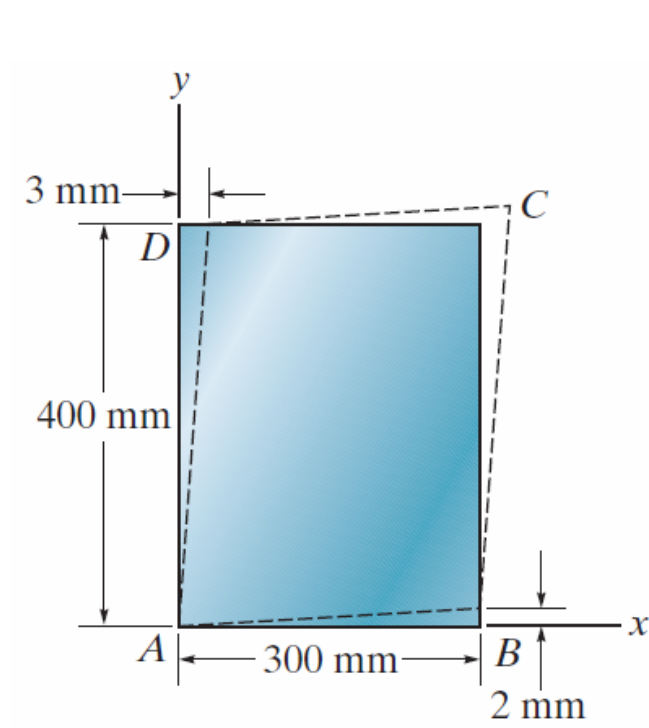

Fig. 4.1
- 4.1 The piece of rubber is originally rectangular and subjected to the deformation shown by the dashed lines. Determine (a) the average shear strain at A and (b) the average normal strain along the diagonal DB and side AD (Fig. 4.1).